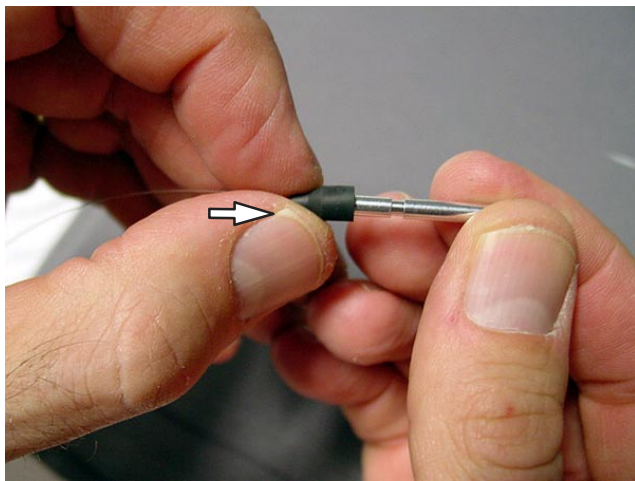

Figure 52
14. (Optional) Slide the boots onto the splice until they bottom on the shoulder. See Figure 52.